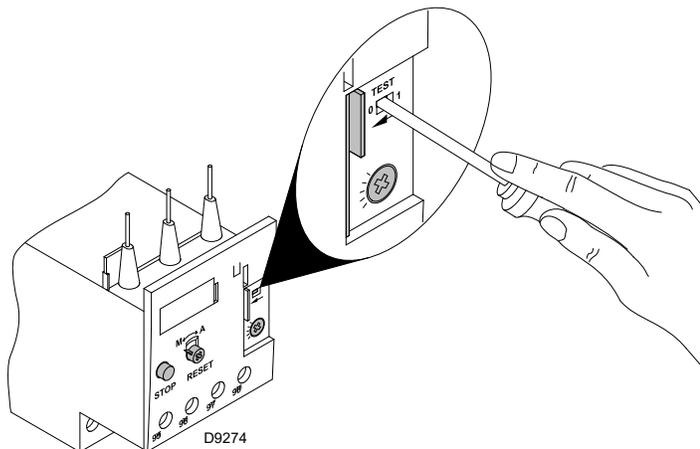

Fig. 19
- To test the thermal relay, insert a screwdriver in the window "TEST" (Fig. 19) and move it in the sense of the arrow (towards right).